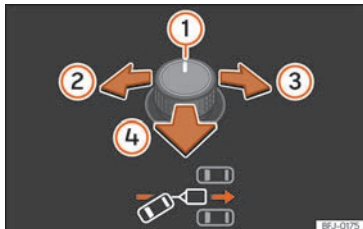
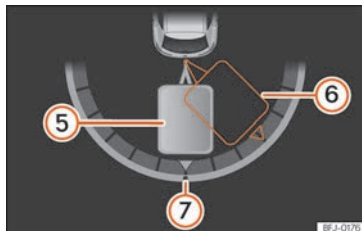

Fig. 213 Rotary exterior mirror controls.: adjust the trailer angle.
Fig. 214 Instrument panel display: engage reverse gear
Key of the **Fig. 213**, **»» Fig. 214**:
• Tilt the rotary control until the desired direction is reached **»» Fig. 213**. A representation of the tow vehicle and trailer set is shown on the instrument cluster screen for guidance purposes **»» Fig. 214**.